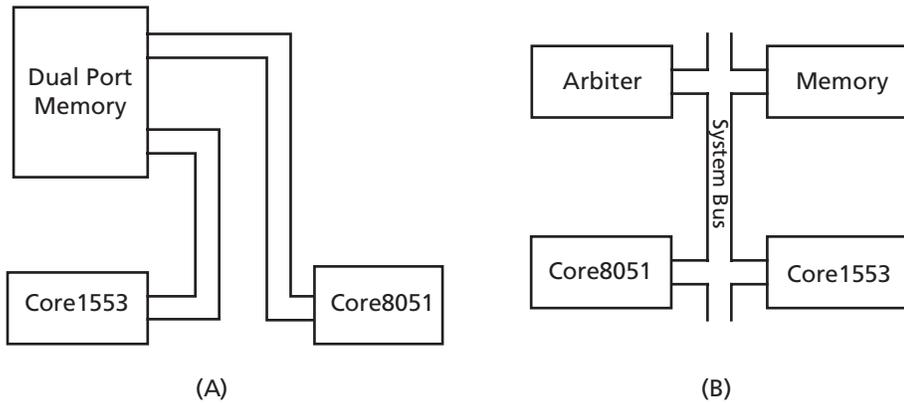

Figure 1 • System Level Architecture of the Core1553-Core8051 Backend Memory System
Core1553 is equipped with memory request/grant I/Os which can be used when Core8051 and Core1553 share the same bus. In this case, a bus arbiter is required to turn over the control of the memory bus to Core1553 and Core8051 accordingly. Figure 1 on page 2 depicts the overall architecture of the above implementations.
Figure 1 (A) shows a system in which a dual-port memory provides two separate connections for Core8051 and Core1553. In the Figure 1 (B) implementation, a single bus serves the system. The bus control is overseen by the arbiter, which provides access to the bus for Core1553 and Core8051, respectively. In all implementations, if the backend uses the embedded synchronous memories, the ASYNCIF input of Core1553 should be tied low. The architectures, depicted in Figure 1, are discussed in the following sections.
Similar to the RT or MT variation of Core1553BRM, a dual-port RAM can be used to provide direct access to memory space for both Core8051 and Core1553. The only difference, as discussed above, is the address space of Core1553. To fulfill this in the scheme shown in Figure 1 on page 2, the read and write address bus width of port B of the memory should be 16-bit.